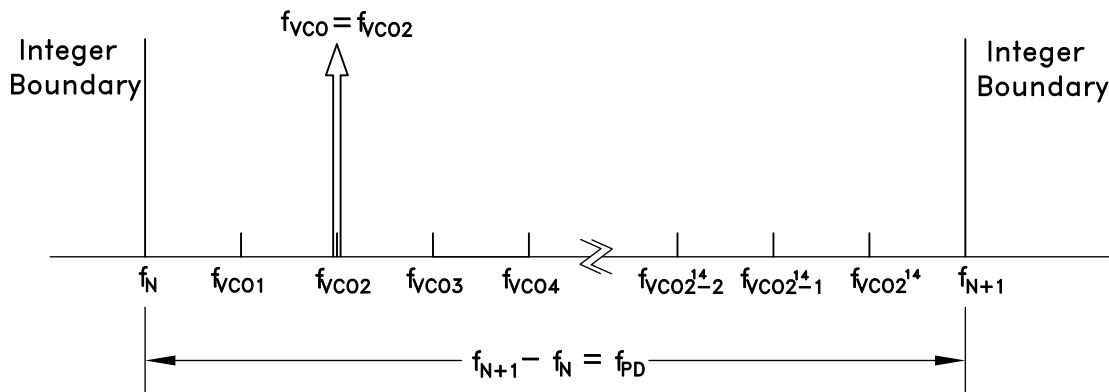

Figure 44. Exact Frequency Tuning
and  $f_{VCOk}$  are the channel step frequencies where  $0 < k < 2^{24}-1$ , As shown in Figure 44.
Some fractional PLLs are able to achieve this by adjusting (shortening) the length of the Phase Accumulator (the denominator or the modulus of the Delta-Sigma modulator) so that the Delta-Sigma modulator phase accumulator repeats at an exact period related to the interval frequency ( $f_{VCOk} - f_{VCO(k-1)}$ ) in Figure 44. Consequently, the shortened accumulator results in more frequent repeating patterns and as a result often leads to spurious emissions at multiples of the repeating pattern period, or at harmonic frequencies of  $f_{VCOk} - f_{VCO(k-1)}$ . For example, in some applications, these intervals might represent the spacing between radio channels, and the spurious would occur at multiples of the channel spacing.
If it is desirable to have multiple, equally spaced, exact frequency channels that fall within the same interval (ie.  $f_N \leq f_{VCOk} < f_{N+1}$ ) where  $f_{VCOk}$  is shown in Figure 44 and  $1 \leq k \leq 2^{14}$ , it is possible to maintain the same integer-N (Reg 03h) and exact frequency register (Reg 0Ch) settings and only update the fractional register (Reg 04h) setting. The Exact Frequency Channel Mode is possible if (EQ 17) is satisfied for at least two equally spaced adjacent frequency channels, i.e. the channel step size.
To configure the HMC833LP6GE for Exact Frequency Channel Mode, initially and only at the beginning, integer (Reg 03h) and exact frequency (Reg 0Ch) registers need to be programmed for the smallest  $f_{VCO}$  frequency ( $f_{VCO1}$  in Figure 44), as follows:
1. Calculate and program the integer register setting Reg 03h =  $N_{INT} = \text{floor}(f_{VCO1}/f_{PD})$ , where  $f_{VCO1}$  is shown in Figure 44 and corresponds to minimum channel VCO frequency. Then the lower integer boundary frequency is given by  $f_N = N_{INT} \cdot f_{PD}$ .
$\text{Reg04h} = N_{FRAC} = \text{ceil} \left( \frac{2^{24}(f_{VCOk} - f_N)}{f_{PD}} \right)$  where  $f_N = \text{floor}(f_{VCO1}/f_{PD})$ , and  $f_{VCO1}$ , as shown in Figure 44, represents the smallest channel VCO frequency that is greater than  $f_N$ .
4. To change from channel 1 ( $f_{VCO1} = 2800.2$  MHz) to channel 2 ( $f_{VCO2} = 2800.3$  MHz), only **Reg 04h** needs to be programmed, as long as all of the desired exact frequencies  $f_{VCOk}$  (Figure 44) fall between the same integer-N boundaries ( $f_N < f_{VCOk} < f_{N+1}$ ). In that case